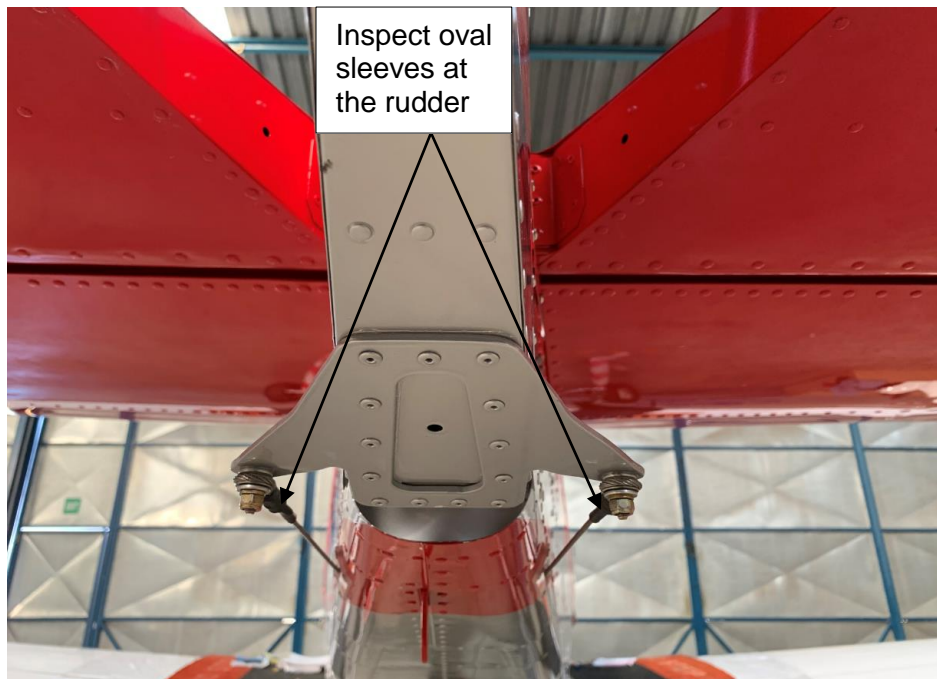

Figure 3 – Oval sleeves at rudder
3. The accessible oval sleeves on the rudder cable are located at the rudder (shown in Figure 3 to Figure 5) and at the pedals (shown in Figure 6). To access oval sleeves at the rudder pedals, use the 2 mm / 2.5 mm Allen key to remove the centre console inspection covers.